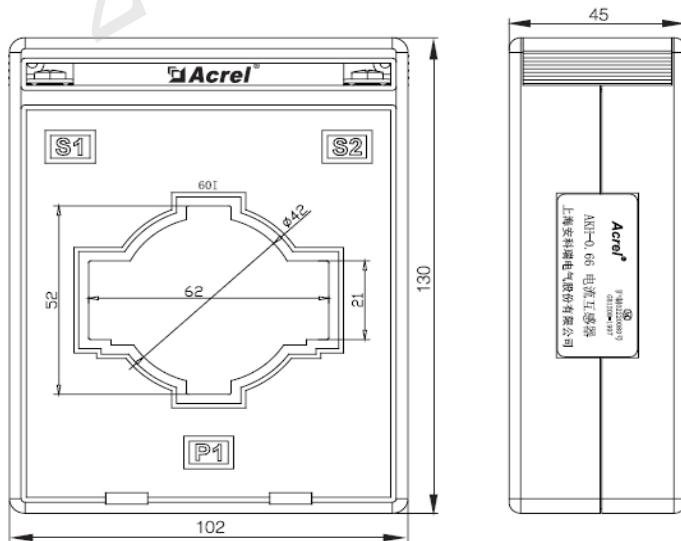

FIG. 11 External dimensions of current transformer 800A
5.3.3 The external dimensions of the current transformer (800A) are shown in FIG. 11 (unit: mm) :